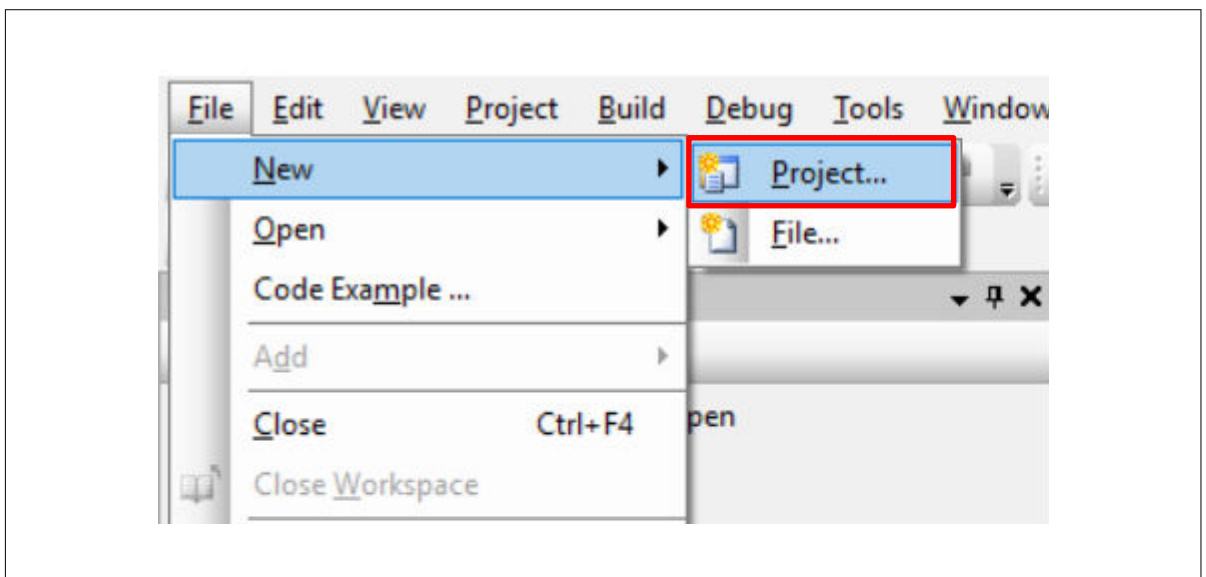

Figure 33 Creating a new project
- 1. Start PSOC™ Creator, and from the **File** menu choose **New > Project**, as shown in Figure 33.